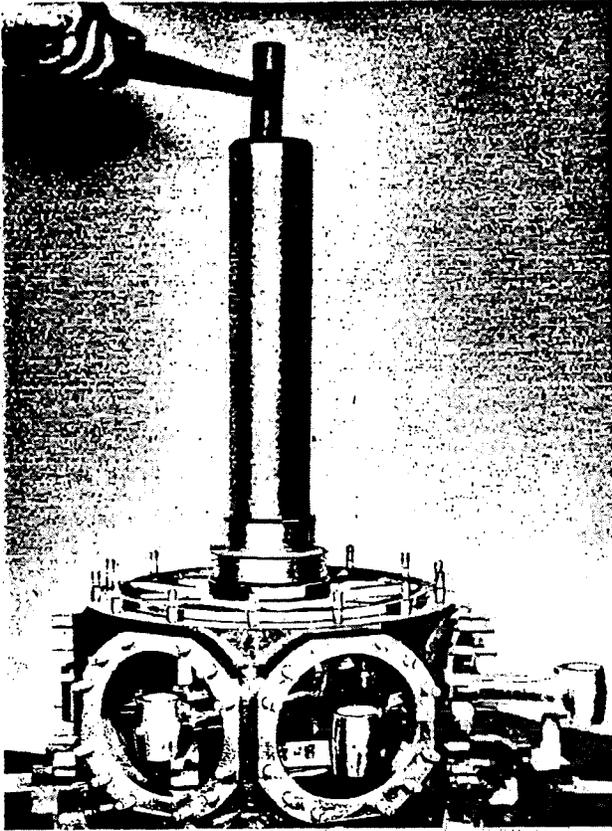

Figure 36 - Installing Front Main Roller Bearing
b. Place inner race of front main roller bearing on crankshaft and drive onto its seat with Driver (Tool No. T-23000) and Adapter for the particular make of bearing being installed. (Refer to T.O.No.02-30-3 for Tool No. T-23000-2, -3, or -4). Refer to Figure 36.